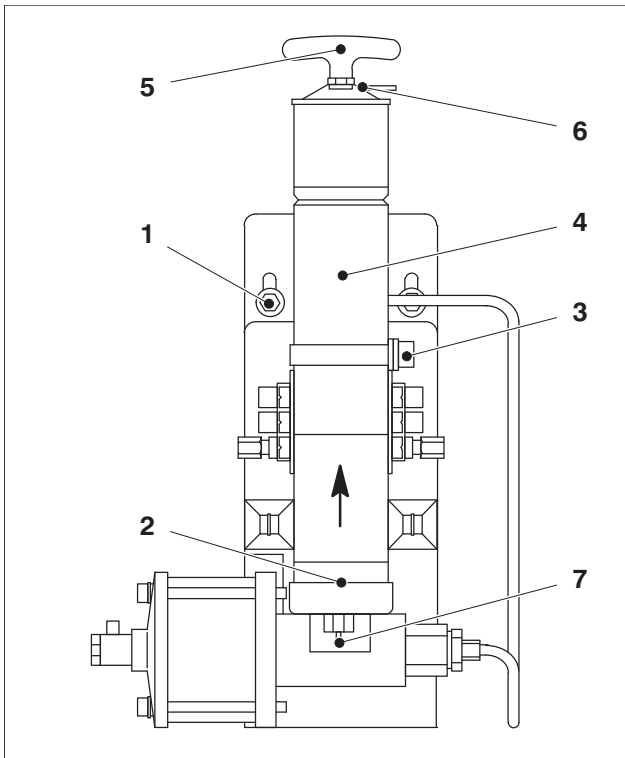

Fig. 32 Grease cartridge
4. Open the Allen screw (Fig. 32/1) slightly.
6. Prior to changing the cartridge, clean the pressure pipe thread area (Fig. 32/2) of the pump.
7. Open the clamp clip (Fig. 32/3).
8. Hold the rod at the handle (Fig. 32/5), pull it out and lock it.
9. Unscrew the pressure pipe (Fig. 32/4).
17. Press the lever (Fig. 32/6) to release the bar locking device, and push in the rod.
18. Press the air-relief valve (Fig. 32/7).